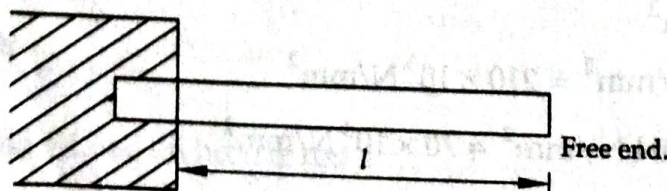

Fig. 31
1. Cantilever Beam: A beam which is fixed at one end and free at the other end, is known as cantilever beam. (Fig. 31)